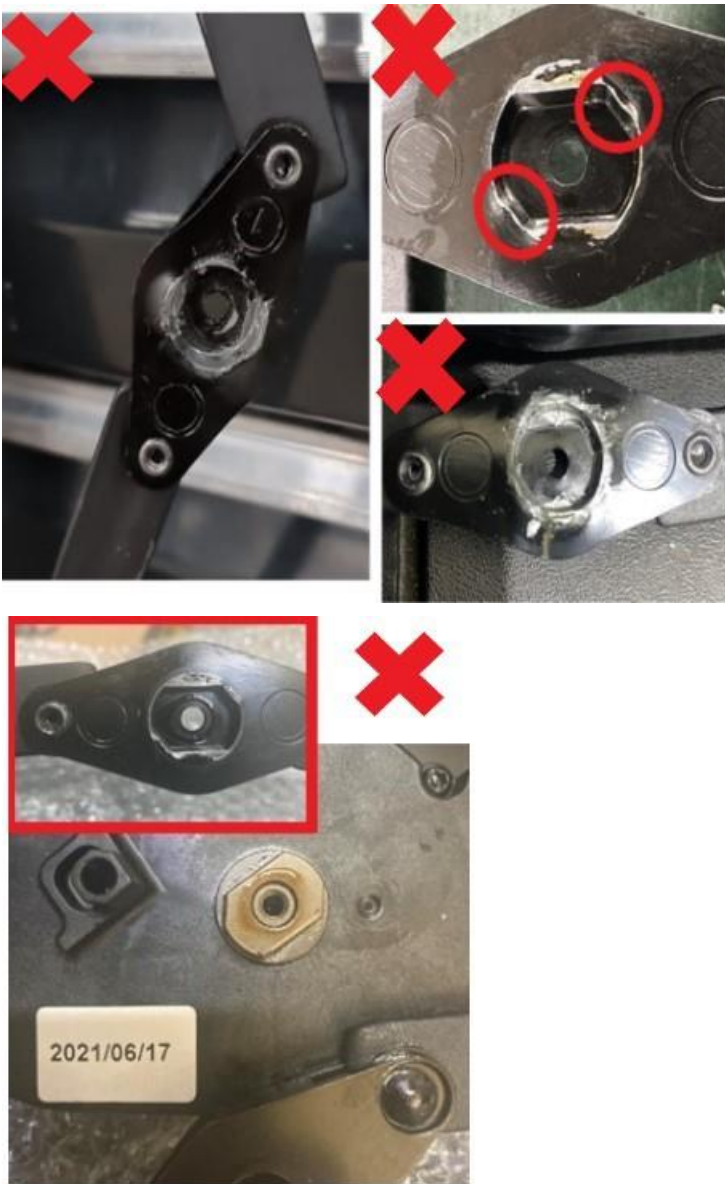

Figure 8
- Referring to Figure 8 - Remove the rotator plate
In the event the rotator plate is NOT OK as shown in the examples in Figure 8, the operative should replace the complete blind assembly